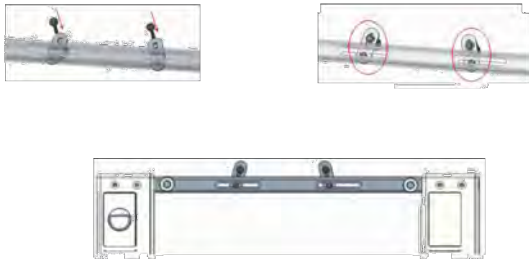

Figure 10 Fix the equipment with the toilet after adjusted the distance by an extension part
- 4) for those poor body balance users, the crossbeam of the equipment main part A must be fixed with the toilet by bolts (as shown in Figure 9, Figure 10).